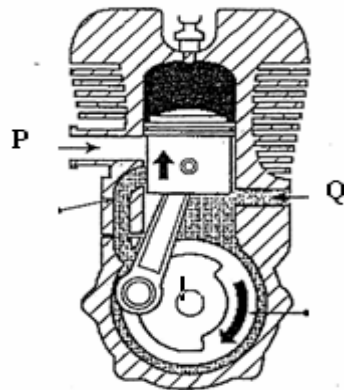

Figure 10
20. Figure 10 shows the cross section of an engine.